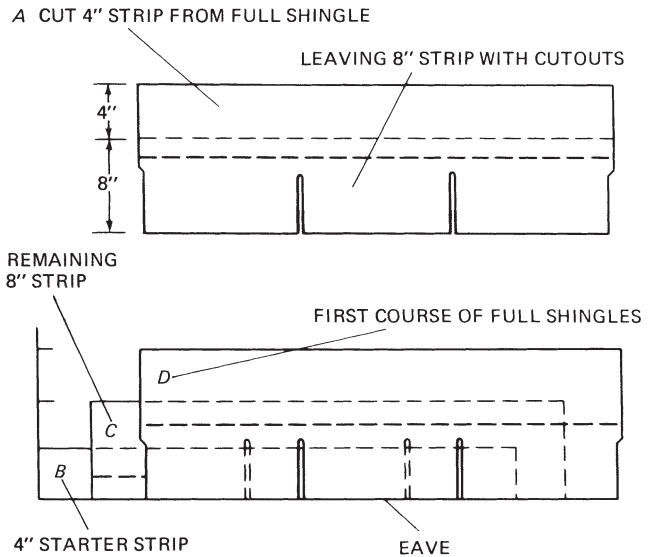

Fig. 8-62 Laying the ribbon courses. (Bird and Son.)
4. Lay the first course of full (12- × 36-inch) shingles. It goes over layers B and C. The bottom of the cutout is laid down to the eave (Fig. 8-62).